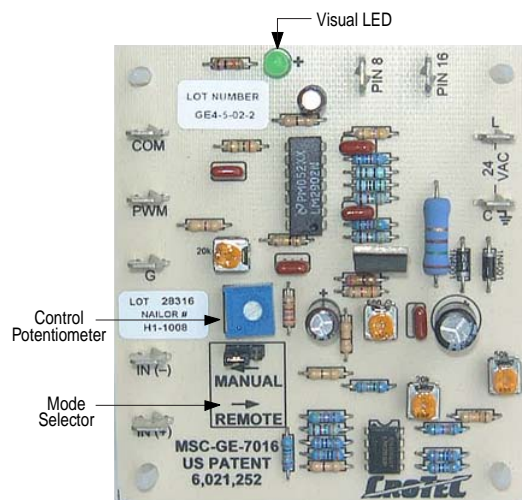

Figure 1. EPIC™ Volume Controller Card.
**BEFORE PROCEEDING WITH ANY ADDITIONAL TROUBLESHOOTING, ENSURE THAT THE POLARITY OF THE 24 VAC SUPPLY TO THE CONTROLLER IS CORRECT. (SEE FIGURE 1). IF THE POLARITY IS NOT CORRECT, REMOVE THE CONNECTORS AND RECONNECT OBSERVING PROPER POLARITY. RECHECK THE SYSTEM FOR PROPER OPERATION.**